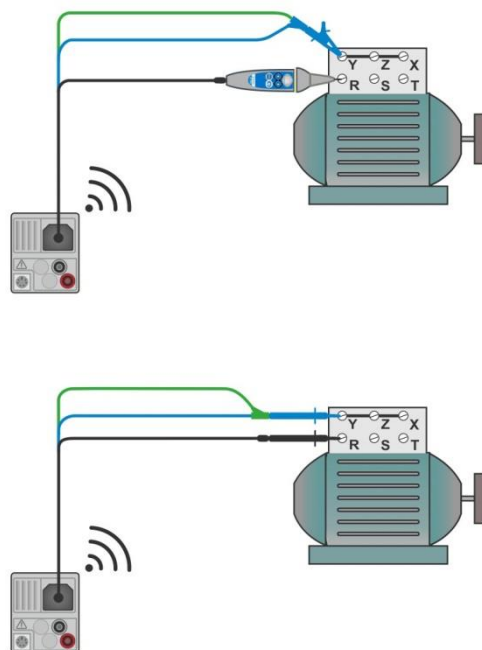

Figure 7.23: Tip commander and 3-wire test lead applications
- › Connect test leads to device under test, see **Figure 7.23**.